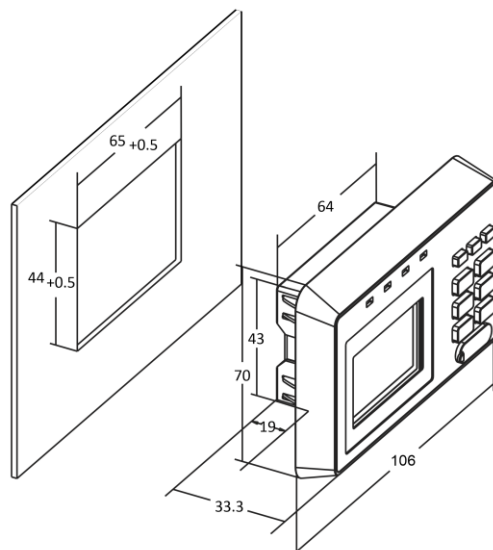

Figure 2-29 Panel Cutout Mounting for HMI Module
- Fit the meter through a 44mm x 65mm cutout, as shown in Figure 2-29.